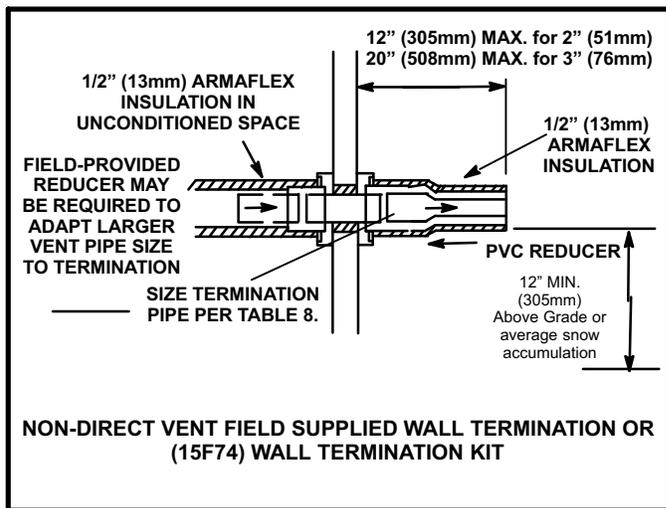

FIGURE 39
- 2 - On field supplied terminations for side wall exit, exhaust piping may extend a maximum of 12 inches (305mm) for 2" PVC and 20 inches (508mm) for 3" (76mm) PVC beyond the outside wall. See figure 39.